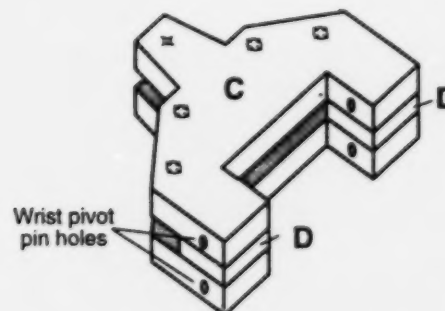

Figure 23 - Gripper Wrist
5. Assemble the two parts C and D like a sandwich as shown in Fig. 23. Place 4D common bright nails through the drilled holes to line them up before gluing and clamping. When dry, sand edges even. Place finished part in drill press vise being careful to square it vertically. Drill 1/8" holes as shown for wrist pivot pins.
7. Cut four 4d common nails to $\frac{1}{2}$ " length. Assemble gripper as shown in Figure 23. Use shortened nails to hold jaws to part E. Use full length 4d nails, with ends filed square, to attach other end of struts to part C/D. Put a little hot glue on bottom end of nails to hold them in place. Place cutoff 3D nails in small holes as shown.